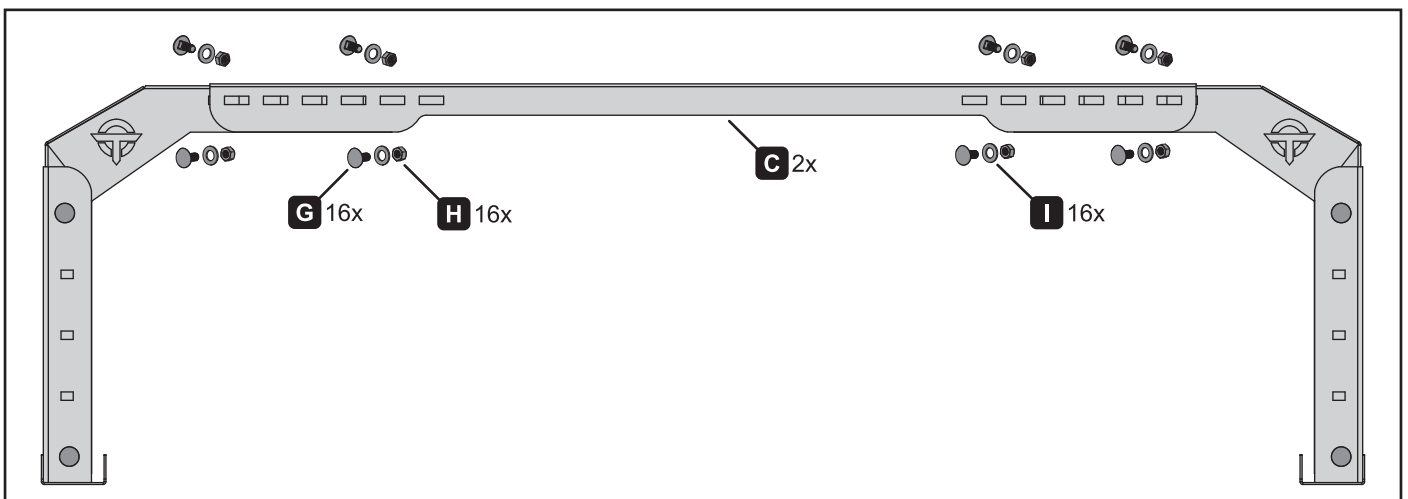

Figure 3. Frame assembly
3. Loosely assemble two leg assemblies and one crossbar at the desired width using 20mm carriage bolts (G), washers (I) and lock nuts (H) (figure 3).